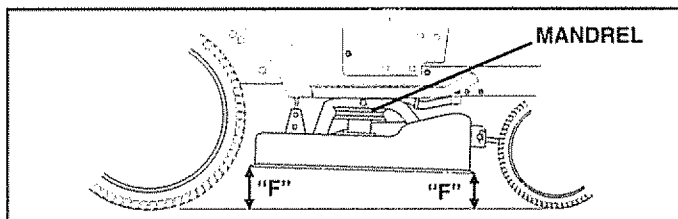

FIG. 20
**FRONT-TO-BACK ADJUSTMENT** (See Figs. 20 and 21) - **IMPORTANT:** DECK MUST BE LEVEL SIDE-TO-SIDE. IF THE FOLLOWING FRONT-TO-BACK ADJUSTMENT IS NECESSARY, BE SURE TO ADJUST BOTH FRONT LINKS EQUALLY SO MOWER WILL STAY LEVEL SIDE-TO-SIDE. To obtain the best cutting results, the mower housing should be adjusted so the front is approximately 1/8" to 1/2" lower than the rear when the mower is in its highest position.